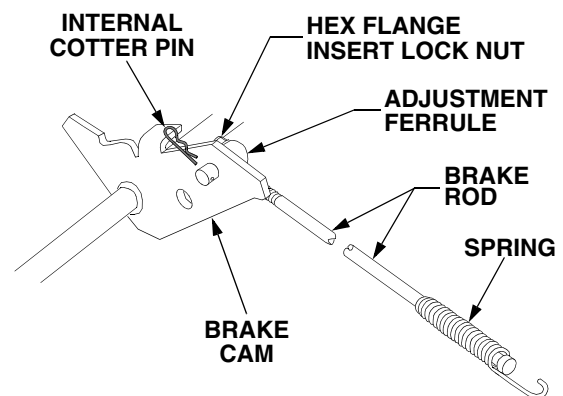

Figure 13
To adjust the braking force proceed as follows (Refer to Figure 13):
- Remove the internal cotter pin from the brake rod adjustment ferrule and withdraw the ferrule from the brake cam. See Figure 13.